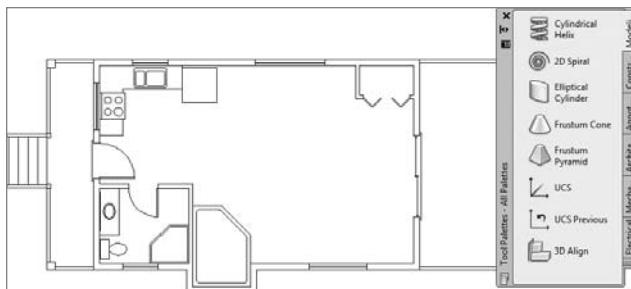

FIGURE 7.59 The tool palettes displayed on the screen
- 2.** If palettes aren't already visible in the drawing area, click the Tool Palettes button, found on the View tab > Palettes panel, to display the palettes (see Figure 7.59).
Your palettes might appear different from those shown in a couple of ways. The ones shown here are positioned on the right side but aren't docked there. Yours might be transparent, showing your drawing beneath them, or your palettes might be hidden and show only the title bar. In Figure 7.59, several tabs are on the right side of the palette area, indicating the available palettes. On its left side is the palette title bar with control icons at the top and bottom.